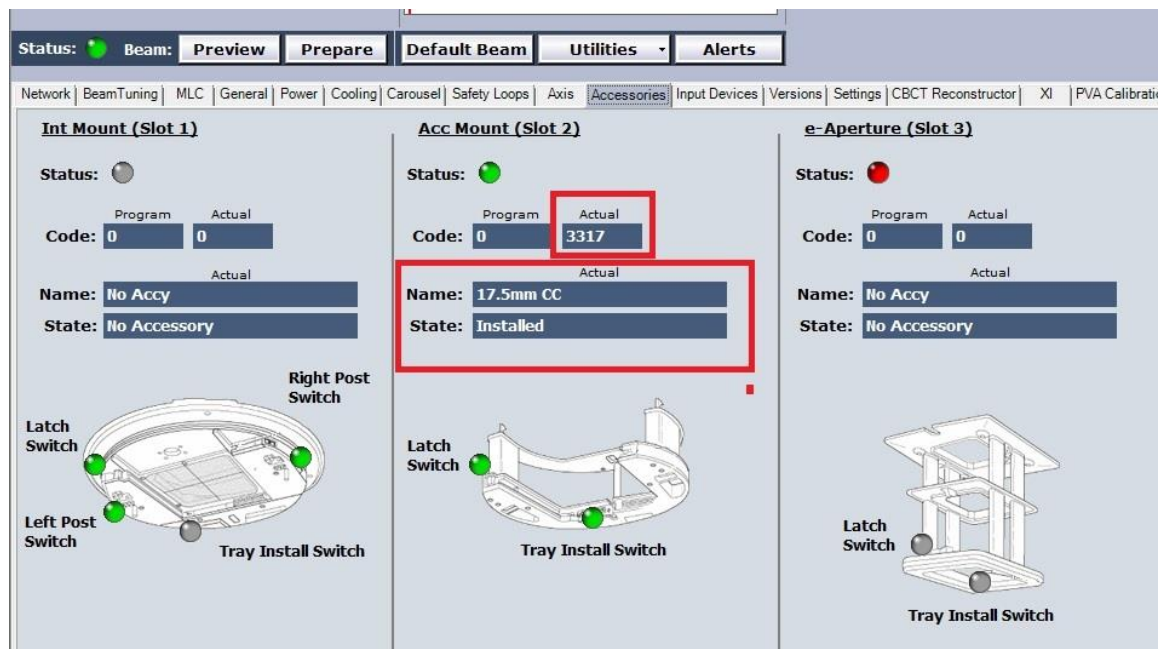

Figure 18: Conical Collimator Recognition in Service Mode
2. On Service mode screen, select the Accessories tab (Figure 18).
6. Verify that the identification code of the conical collimator is correctly recognized by the system (Figure 18) and matches the label on the conical collimator per Data Table Section 8.2.